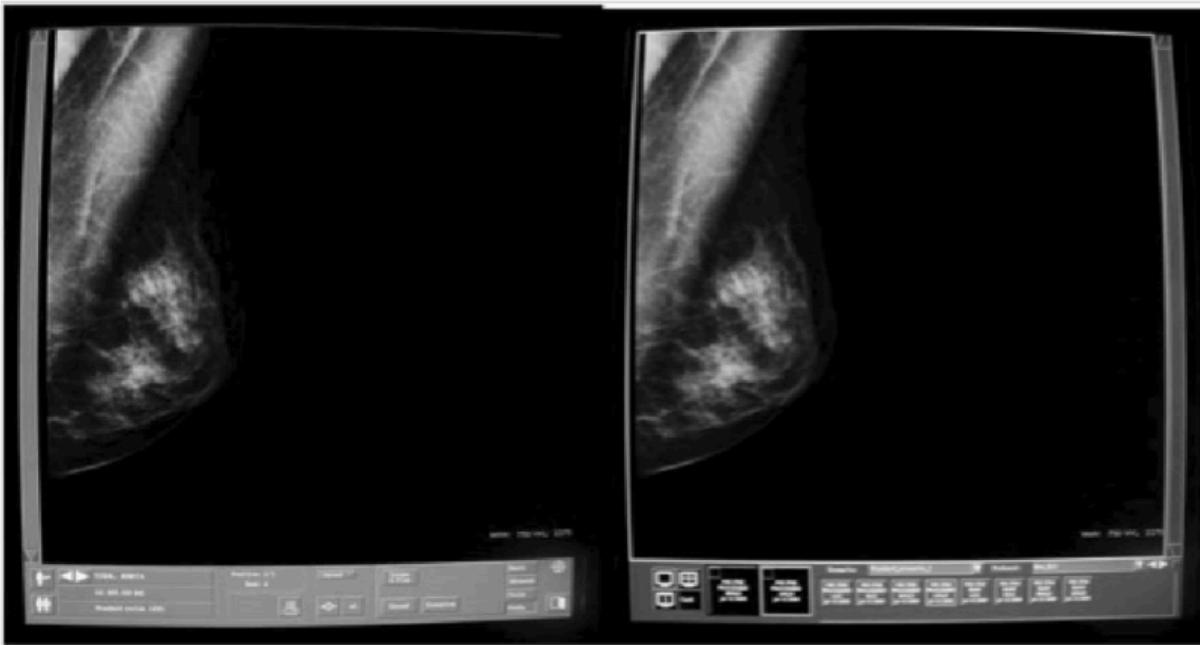

Figure 6: Radiologist's workstation with the same clinical image displayed on both monitors.
1. From the radiologist's workstation used for interpretation, locate a random clinical client file on the menu and open it for viewing. Load the same clinical image on all monitors for viewing (**Figure 6**). DO NOT change the default WW and WL settings.